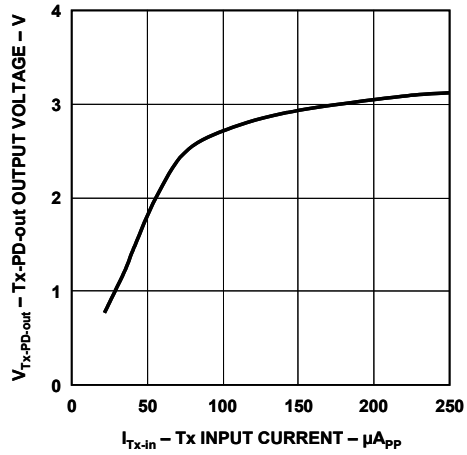
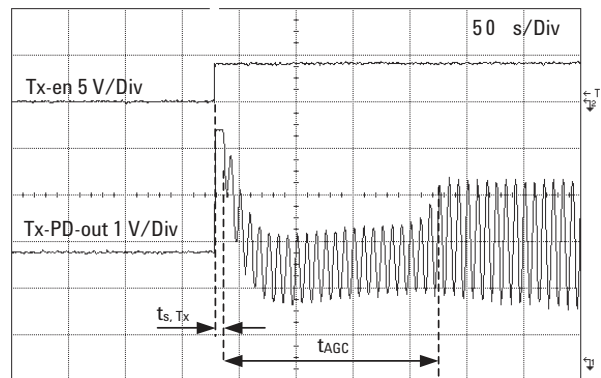

Figure 8. Tx-PD-out output voltage vs. Tx-in input current
Figure 26. Tx-PD-out AGC response time
- Time from transmit is enabled ( $V_{Tx-en}$  is set to logic high) until output (Tx-PD-out) is available. See Figure 26 in the Application Information section.
- Time from output (Tx-PD-out) is available until Tx-PD-out signal reaches 66% of its steady state level. See Figure 26 in the Application Information section.
This AGC circuit compensates for variations in the input signal level presented at Tx-in and variations in the optical channel over temperature and time. The Tx-PD-out output signal is effectively stabilized for input Tx-in signals of between  $150 \mu\text{A}_{pp}$  and  $250 \mu\text{A}_{pp}$  (see Figure 8). The AGC circuit starts to function  $10 \mu\text{s}$  after the Tx-en signal is set to logic high. After a period of  $180 \mu\text{s}$  the Tx-PD-out signal typically reaches 66% of its steady state level (see Figure 26). To ensure correct operation of the internal circuitry, an external  $1 \mu\text{F}$  capacitor needs to be connected from pin 11 to GND2.